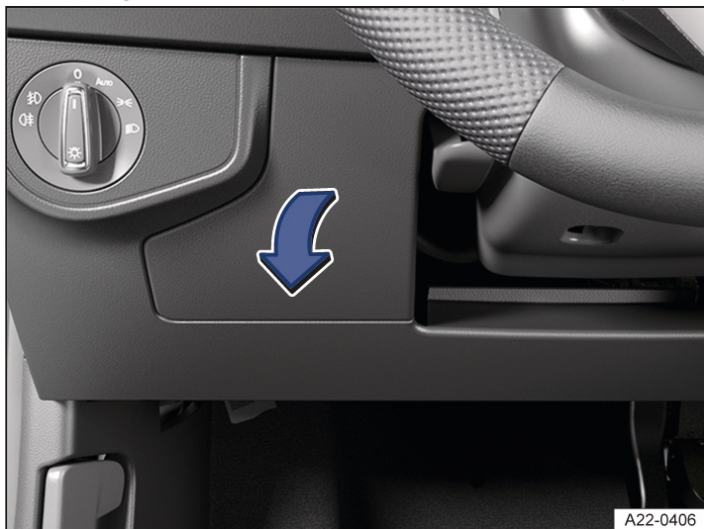

Fig. 1 On the driver side: fuse box cover in the dash panel (left-hand drive vehicle)
1. Reach behind the cover and pull off in the direction of the arrow → Fig. 1.
1. Align the cover on the opposite side and fold it closed in the opposite direction to the arrow until it audibly engages → Fig. 1.